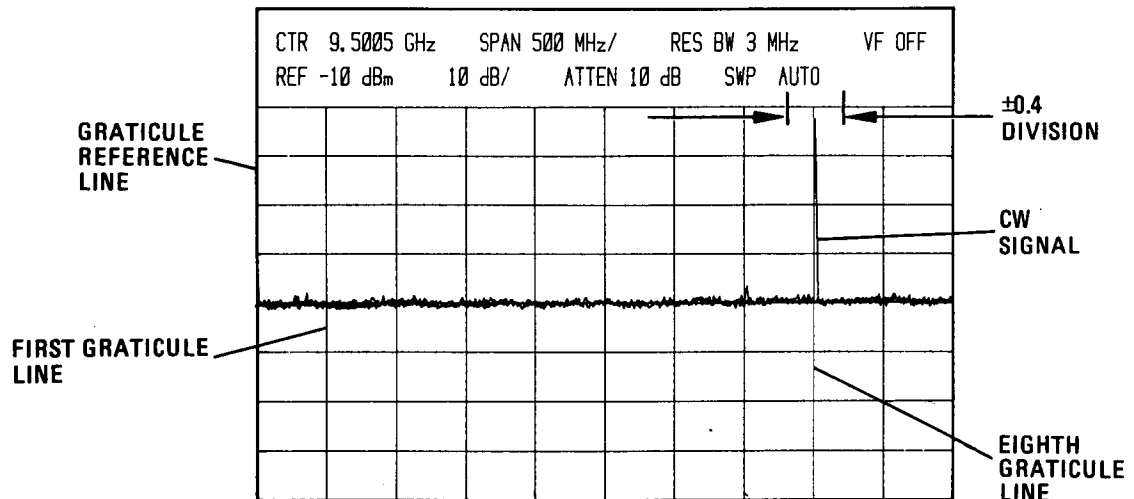

Figure 4-3. Span Width Accuracy Measurement, 500MHz and 200 MHz per Division
6. Measure error between signal peak and eighth graticule line. Error should not exceed ± 0.4 division. (See Figure 4-3.)
10. Measure error between signal peak and eighth graticule line. Error should not exceed ± 0.4 division. (See Figure 4-3.)